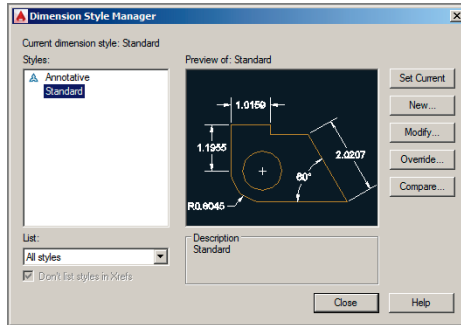

FIGURE 11.3 Dimension Style Manager
- As you can see in the Dimension Style Manager (Figure 11.3), every drawing has Annotative and Standard dimension styles by default. The Standard style is selected by default. Click the Modify button to alter the Standard style.